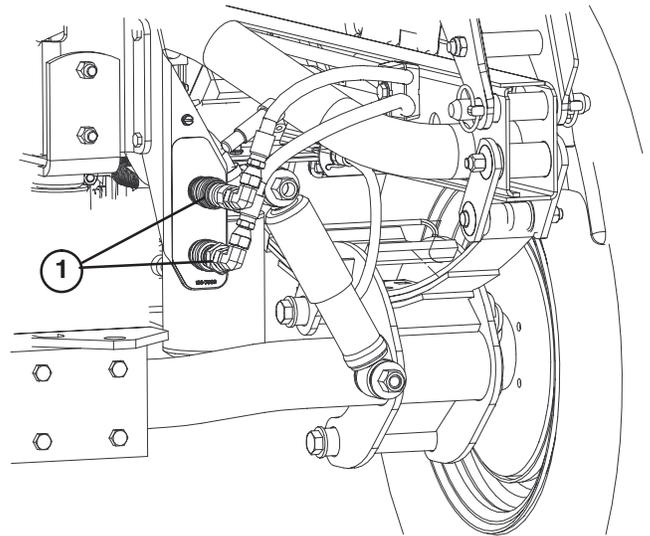

Figure 72
- On both vehicles, disconnect the two quick coupler hoses from the hoses secured to the coupler bracket (Fig. 72).